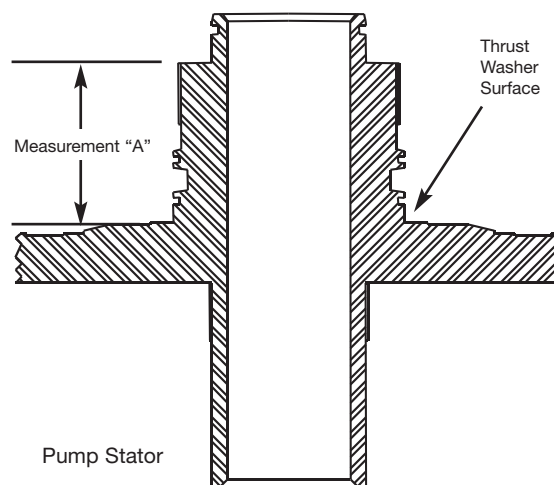

Figure 3
3. Two thrust washers are included in the kit. One is an OEM equivalent, and the second is .015" (0.38mm) thicker than the OEM. If the thrust washer surface is damaged and it is necessary to use the thicker thrust washer, remove only .015" (0.38mm) of material from thrust washer surface on the pump stator (see Figure 3).